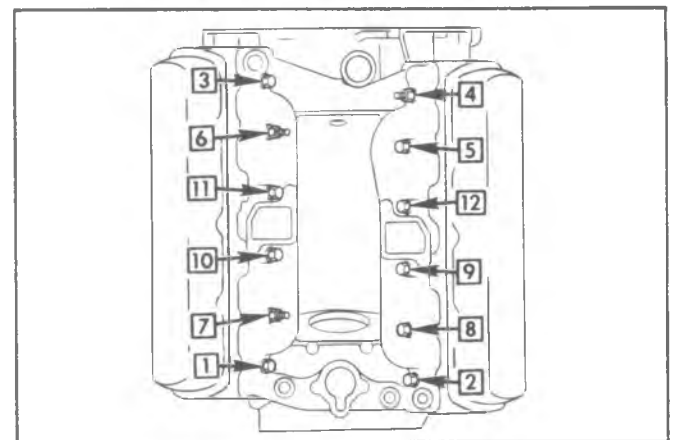

Fig. E-24—Intake Manifold Torque Sequence
4. Dip intake manifold bolts in engine oil and torque in sequence shown to 15 ft. lbs. Then re-torque to 40 ft. lbs. (Fig. E-24)